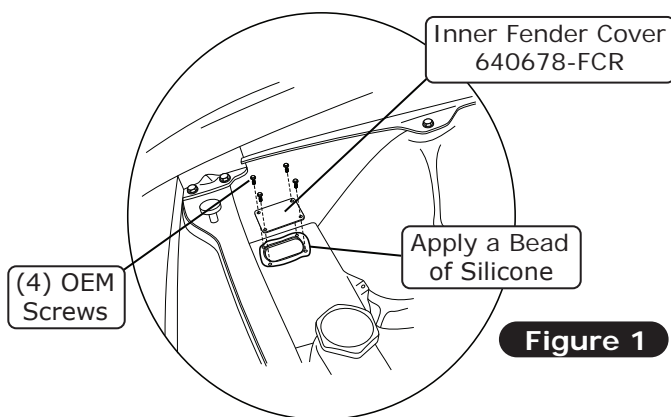

Figure 1
1. Apply a bead of silicone around the OEM A/C hose opening (See Figure 1, below).
2. Install the inner fender cover using the (4) OEM screws (See Figure 1, below).